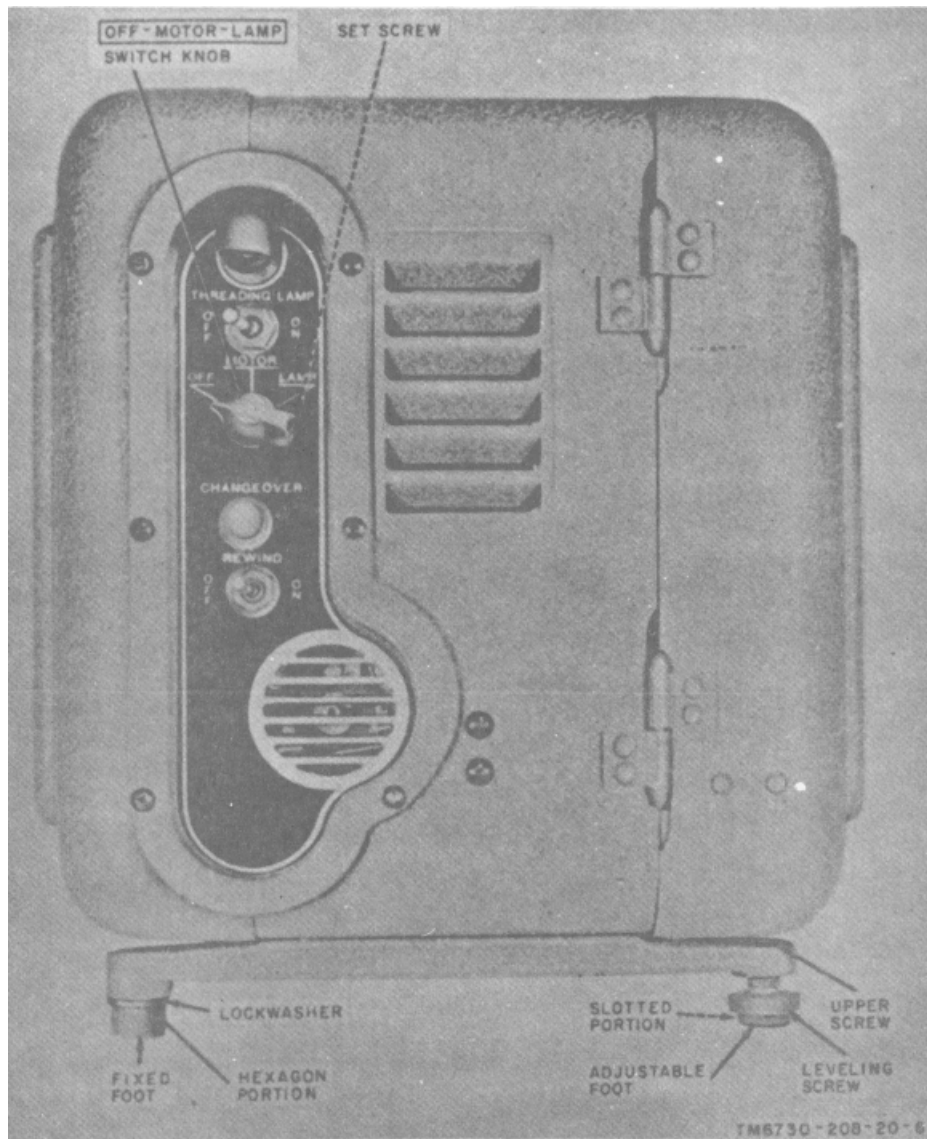
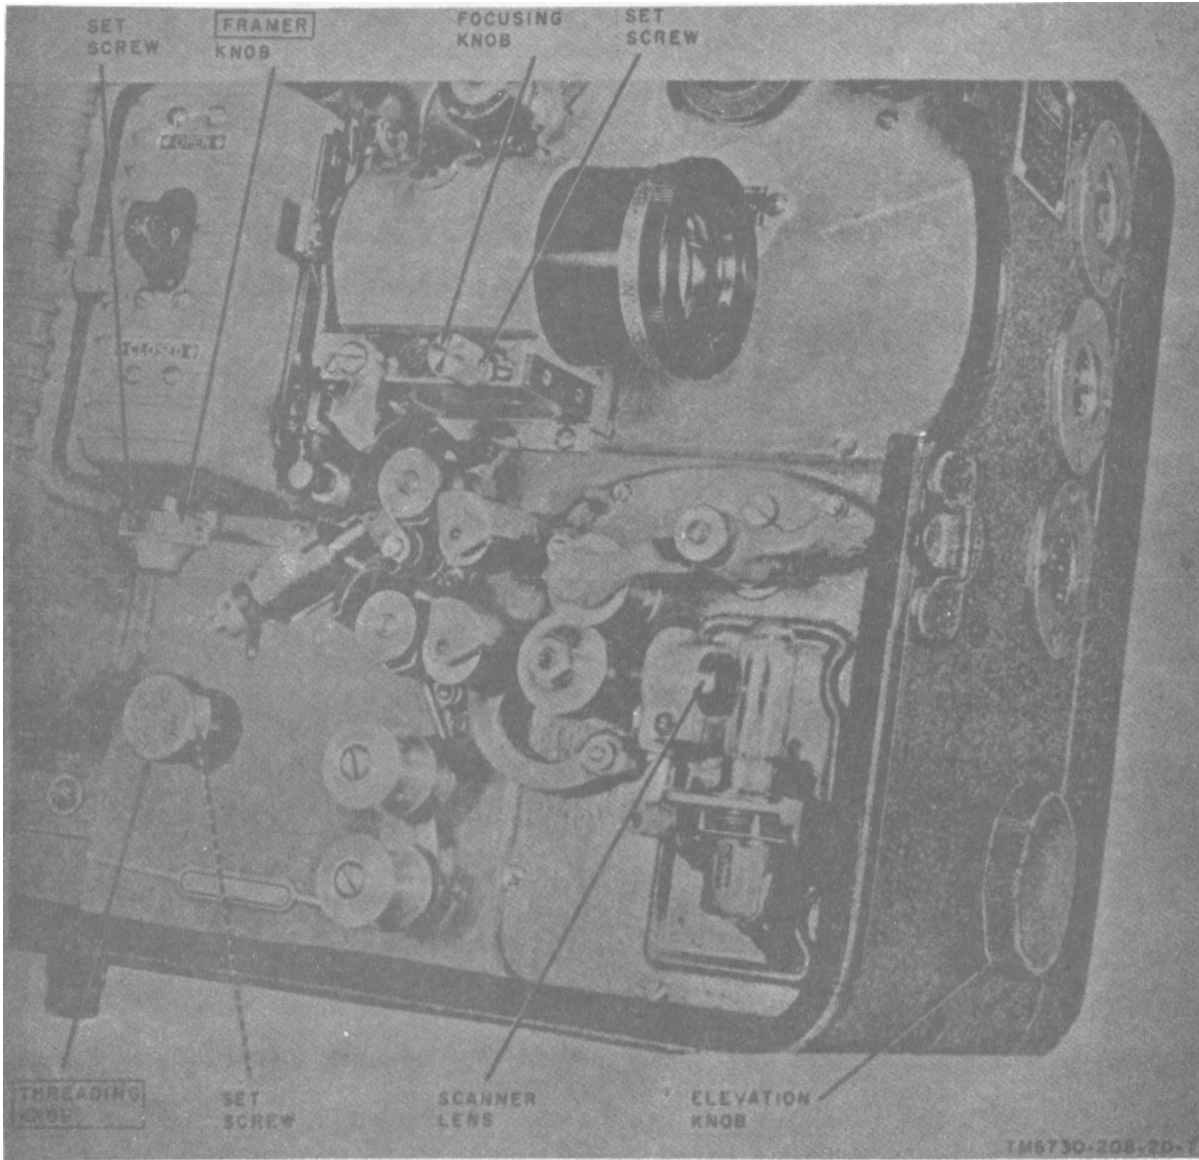

Figure 6. Projector, rear view.
Figure 7. Right-hand side of projector, exciter lamp cover removed.
(1) Use a small screwdriver to loosen the setscrew.
(2) Remove the knob from the shaft.
(3) Position the replacement knob on the shaft so that the setscrew is over the flat part of the shaft.
(4) Tighten the setscrew.
a. OFF-MOTOR-LAMP Switch Knob (fig. 6). Replace the OFF-MOTOR-LAMP switch knob as follows:
(1) Loosen setscrew.
b. THREADING KNOB (fig. 7). Replace the THREADING KNOB as follows:
(1) Loosen the setscrew and remove the knob from the shaft.
(2) Position the replacement knob on the shaft with the setscrew over the flat part of the shaft.
(3) Tighten the setscrew to secure the knob.
(1) Loosen the two setscrews and remove the knob from the shaft.
(2) Install the replacement knob on the shaft and tighten the setscrew.
d. FRAMER Knob (fig. 7). Replace the FRAMER knob as follows:
(2) Install the replacement knob on the shaft and tighten the setscrews.
e. Elevation Knob (fig. 7). Replace the elevation knob as follows:
(1) Drive out the pin that secures the knob to the shaft.
(3) Install the replacement knob on the shaft so that the holes in the knob are aligned with the holes in the shaft.
(4) Insert the pin in the knob and shaft hole and tap it into place.
(fig. 6)